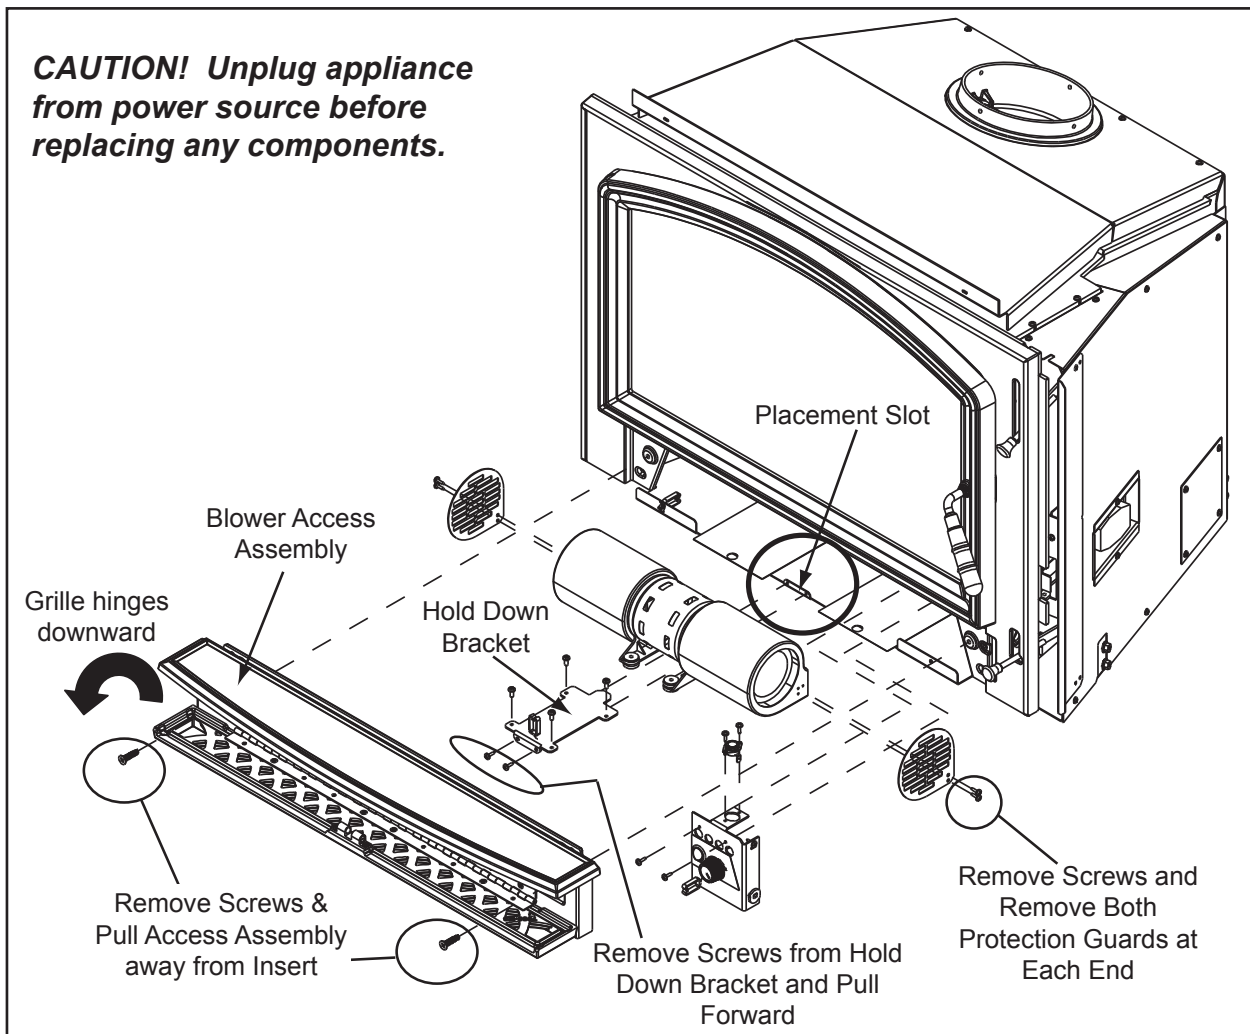

Figure 23.1
1. The grille on the blower access assembly is hinged. Swing the grille downward to expose the 2 screws. **Figure 23.1** on page 23.
1. The grille on the blower access assembly is hinged. Swing the grille downward to expose the 2 screws. **Figure 23.1.**